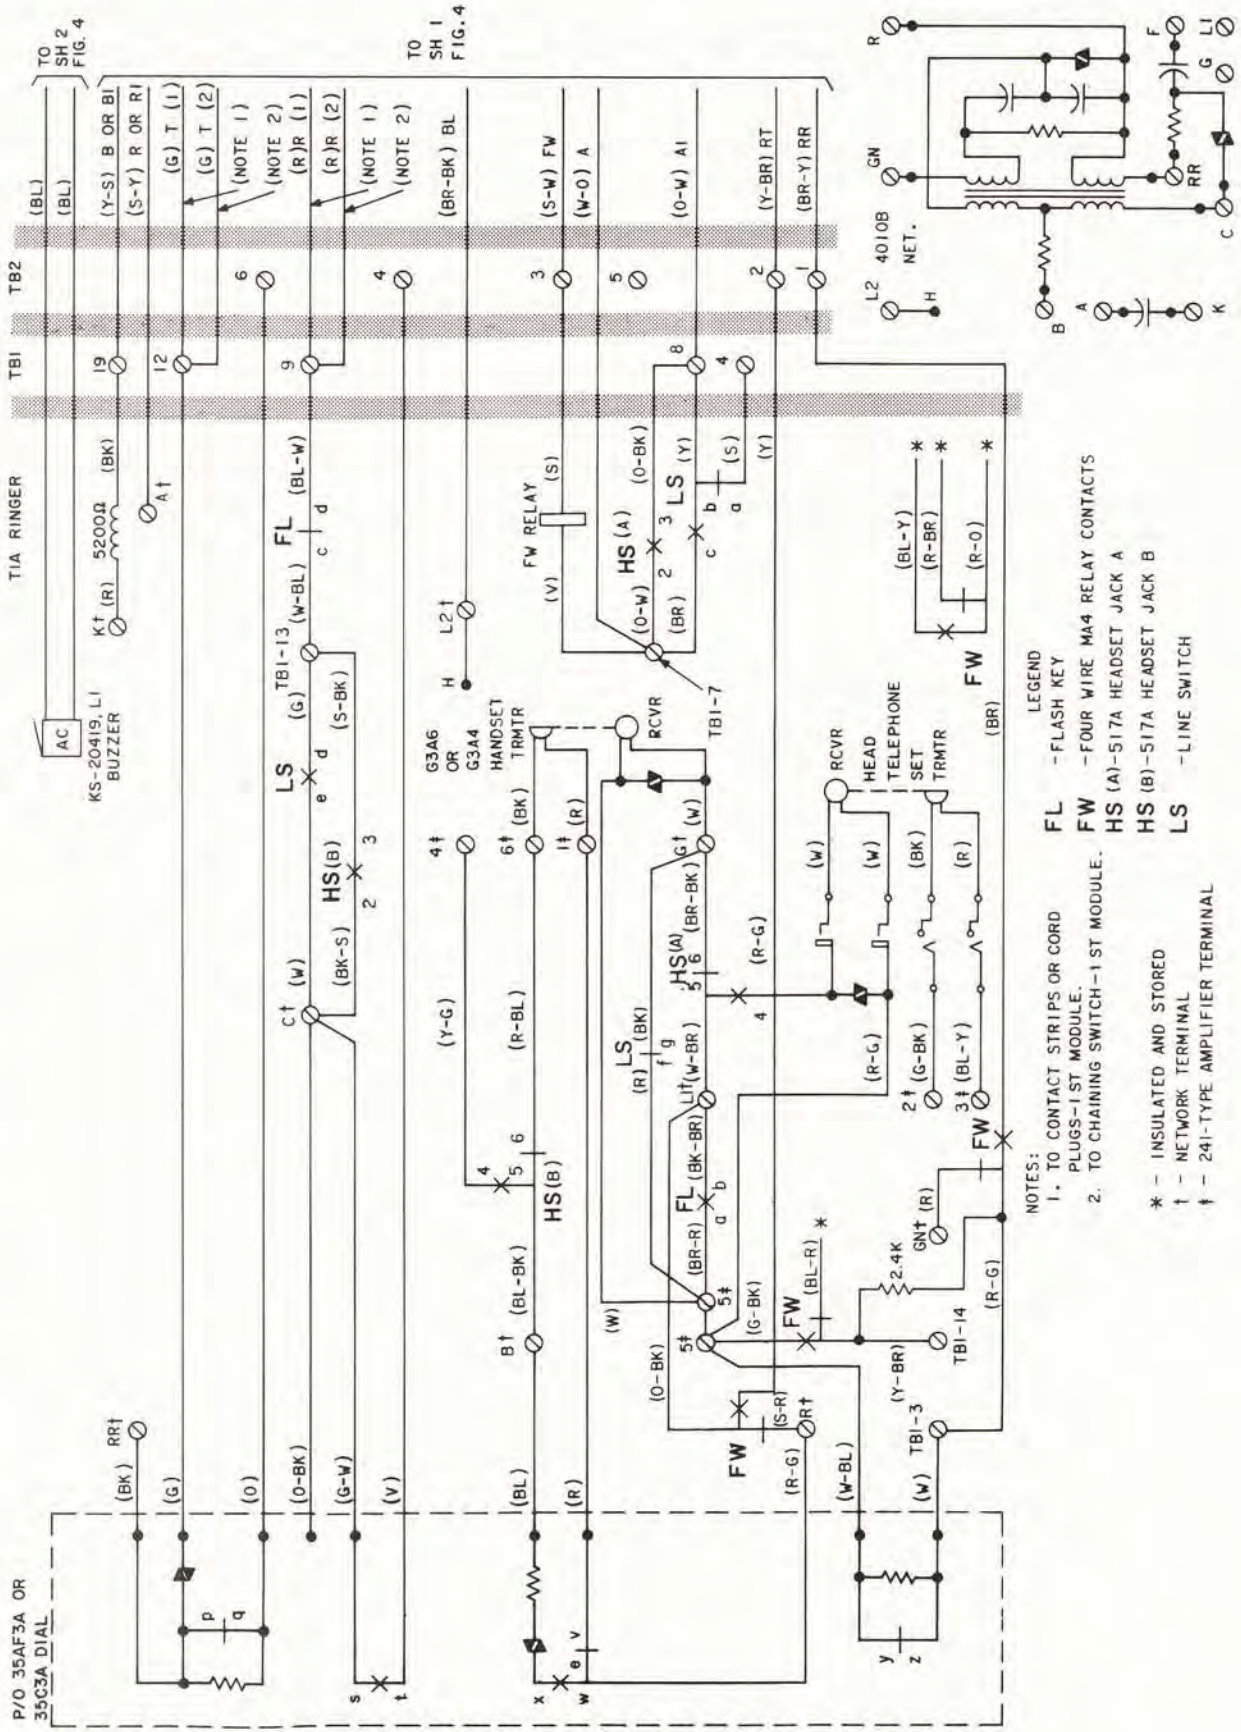

Fig. 1 - 2682AA and 2683AA Telephone Set, Connections
1.03 These sets (Fig. 1, 2, 3, and 4) provide headset or handset operation.